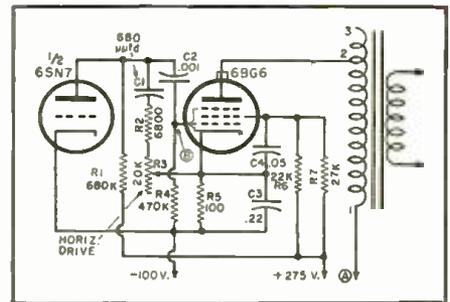

Fig. 5. Diagram of synchrolock drive circuit.
c. The circuit in Fig. 5, is typical of receivers like the RCA 630 and many similar models. To increase the drive on the 6BG6 change R_1 to 1 megohm, R_2 to 470,000 ohms, and C_2 to 2000 μ fd. Changing C_1 to 330 μ fd. and R_3 to 10,000 ohms may also improve the width.